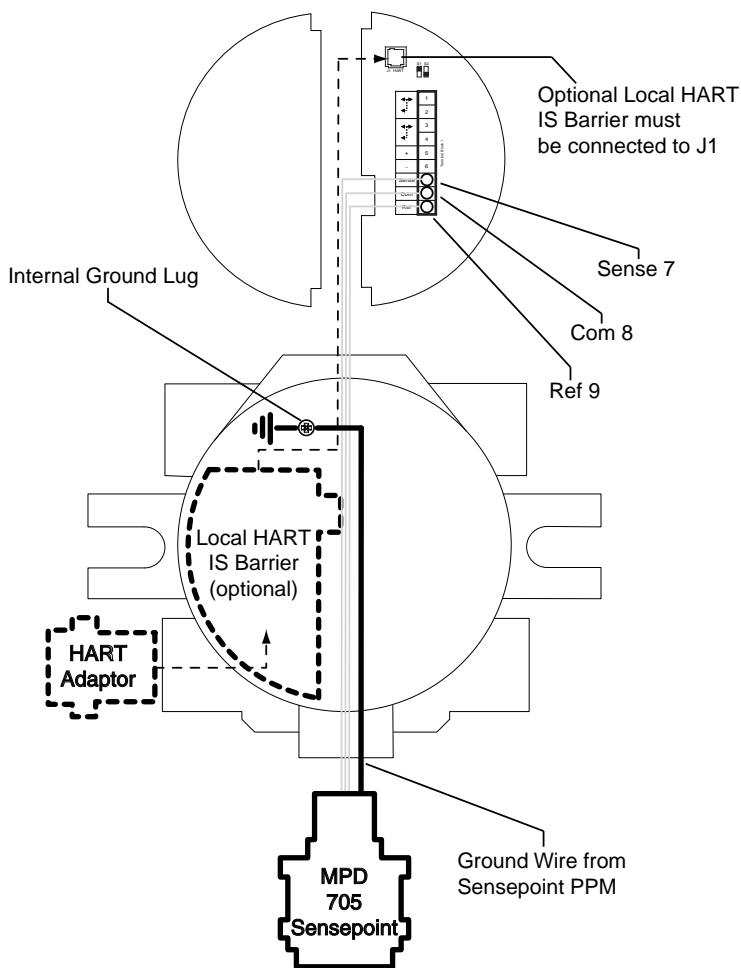
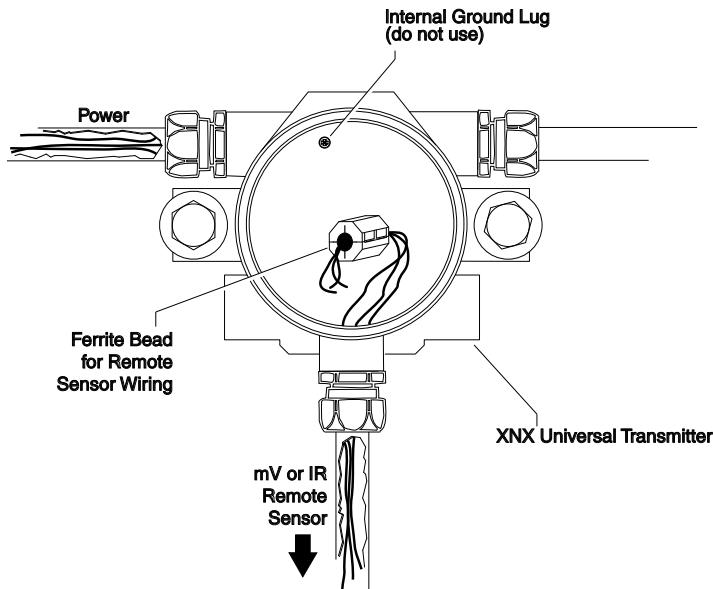

Figure 14. mV personality wiring
Figure 16. Ferrite bead wiring
- 10. At the transmitter, pass the wires through the ferrite bead as shown in Figure 16 and terminate the wiring at the pluggable terminal block as shown in Figure 14.**
In remote mount MPD configurations, the three wires from the sensor that connect to the pluggable terminal block must be routed through the supplied ferrite bead (part no. 0060-1051, supplied in the accessory kit), as shown in Figure 16.